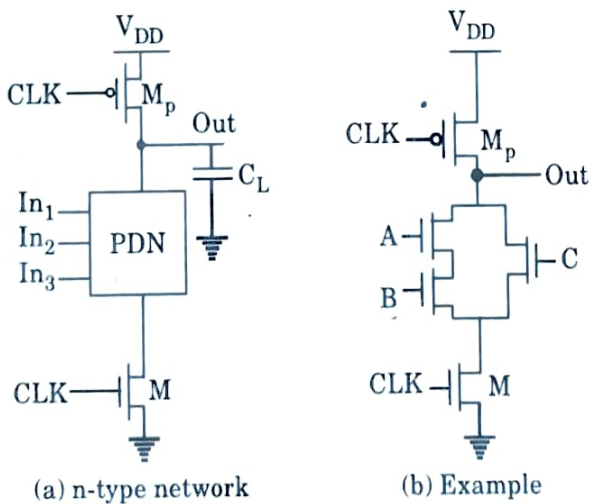

Fig. 3.1.1. Basic concepts of dynamic gate.
1. The basic construction of an (n -type) dynamic logic gate is shown in Fig. 3.1.1. The PDN (pull-down network) is constructed exactly as in complementary CMOS.